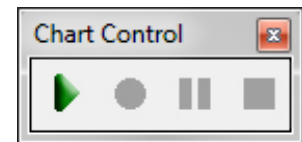

Figure 27: Short Cut Key Controls
5. **Short Cut Keys** (Figure 27): Several function keys are assigned to assist in chart control: